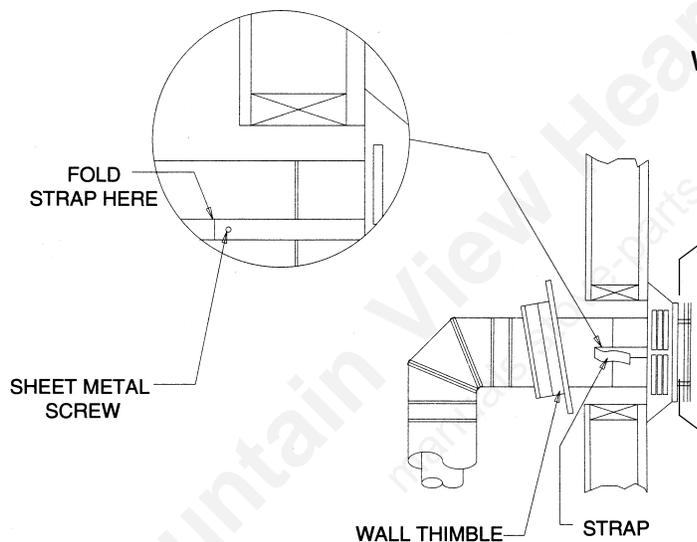

FIG. 9
- Step 6.** Slide the stove and vent assembly towards the wall, carefully inserting the vent pipe into the vent cap assembly. It is important that the vent pipe extend into the vent cap sufficient distance so as to result in a minimum pipe overlap of 1¼" (32mm). Secure the connection between the vent pipe and the vent cap by attaching the two sheet metal strips extending from the vent cap assembly into the outer wall of the vent pipe. Use the two sheet metal screws provided to connect the strips to the pipe section. Bend any remaining portion of the sheet metal strip back towards the vent cap, so it will be concealed by the decorative wall thimble cover (Figure 9).